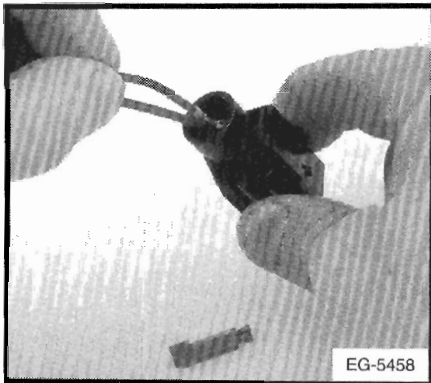

Figure 6-26. – Insert Terminal
1. Push the terminal into the connector body, deep enough so that the retaining finger snaps over the terminal shoulder (Figure 6-26.).